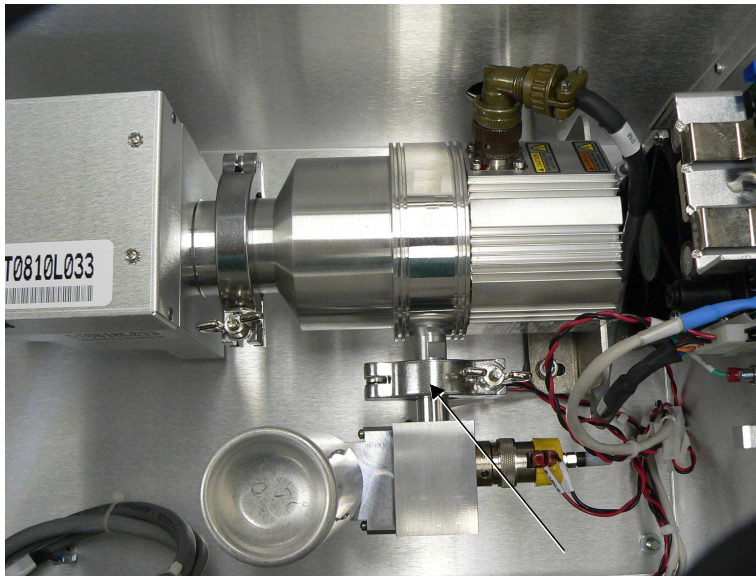

Figure 2: Remove Clamp
4. Loosen and remove the clamp (Figure 2: Remove Clamp).